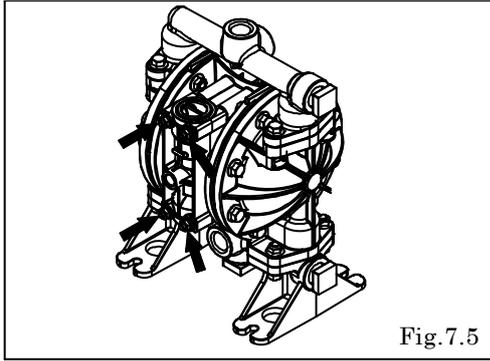

Fig.7.5
- Remove 4 nuts fixing the valve body assembly and draw out the valve body assembly from the main body. [Fig.7.5]